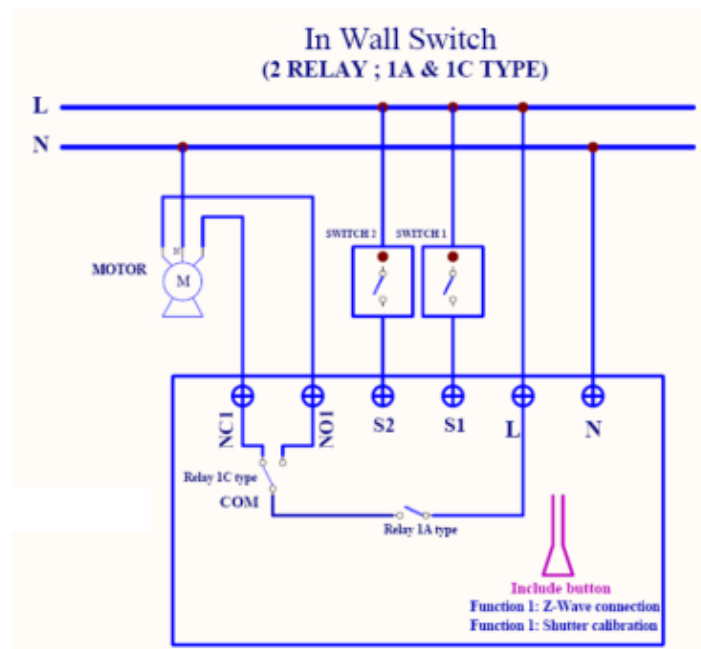

Fig 1. Assembling Installation and wiring
2. Connect the wall switch to the PAN34 as Fig1.